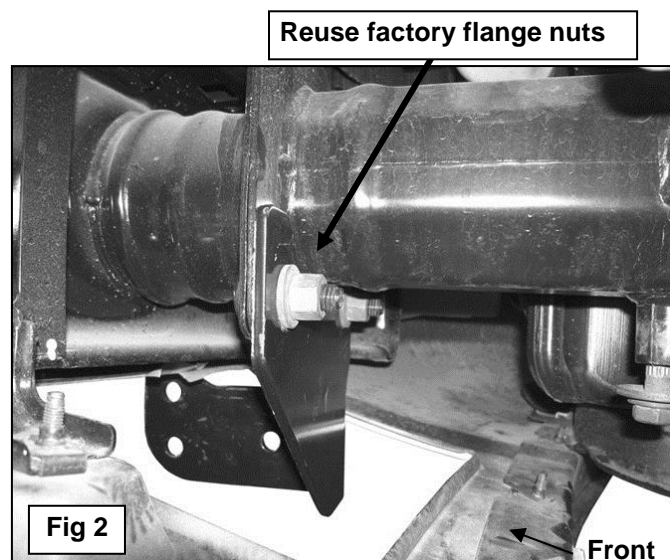

Fig 2
1. Start installation under the front-passenger side of the vehicle. Remove the (2) lower factory hex nuts bolting the bumper bracket to the end of the main frame channel, **(Figure 1)**. Slide the Frame Bracket over the threaded studs and secure using the factory flange nuts, **(Figure 2)**. Snug but do not tighten hardware at this time. Repeat this Step for driver side Frame Mount Bracket installation.